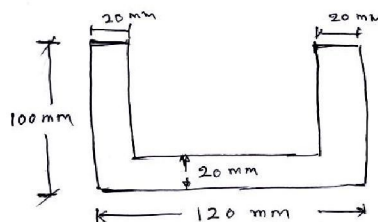

Fig. Q9 (b)
- b. A horizontal beam of the section shown in Fig. Q9 (b) is 4 m long and is simply supported at the ends. Find the maximum uniformly distributed load it can carry if the compressive and tensile stresses are not to exceed 60 MPa and 30 MPa respectively. (14 Marks)